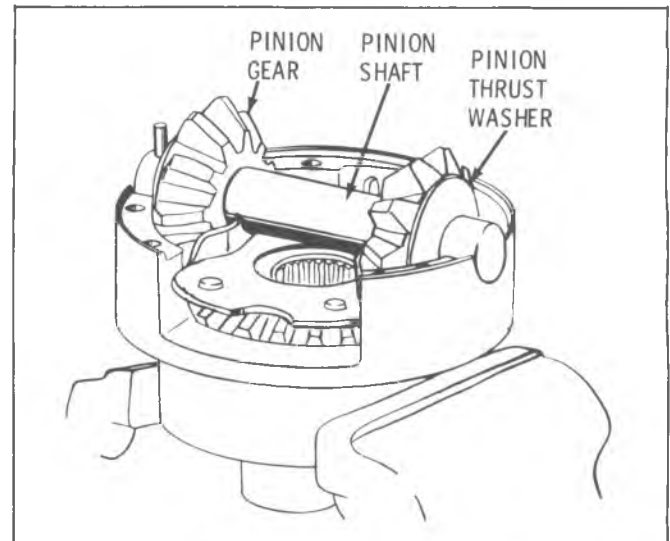

Fig. 4B-18D--Pinion Shaft Position
3. Insert five springs into spring block that is already installed into case, then place second spring block over springs. (Fig. 4B-19D).
5. Install flange half of differential case over cone, insert case bolts finger tight. (Fig. 4B-20D).